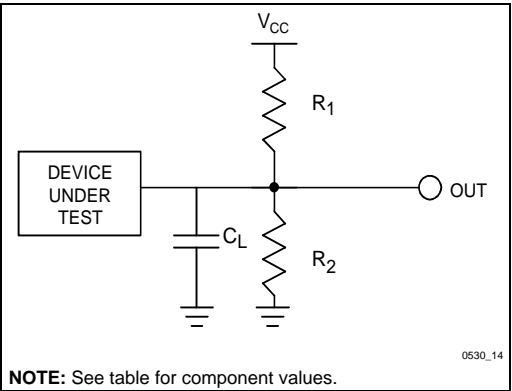

Figure 21. Test Configuration
5. See *Test Configuration* (Figure 21), 3.6 V and 3.3 ± 0.3 V Standard Test component values.
6. See *Test Configuration* (Figure 21), 5 V Standard Test component values.
9. See *Test Configuration* (Figure 21), 3.6 V and 3.3 ± 0.3 V Standard Test component values.
10. See *Test Configuration* (Figure 21), 5 V Standard Test component values.